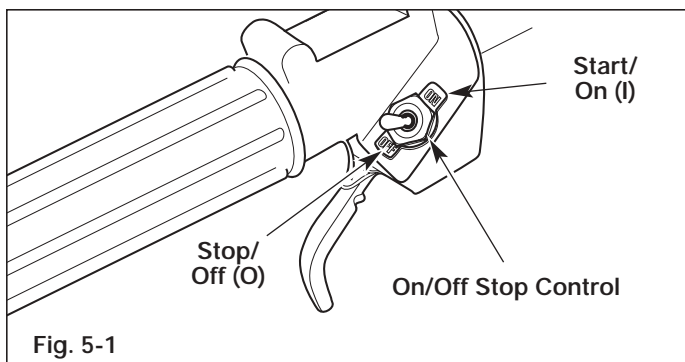
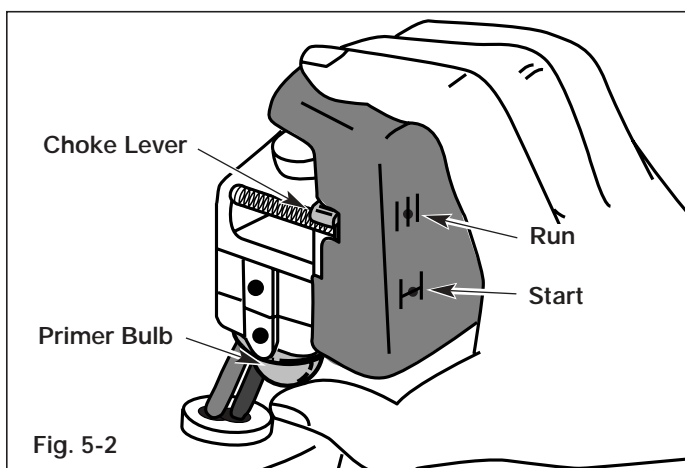

Fig. 5-1
Fig. 5-2
2. Put the On/Off Stop Control in the **ON (I)** position (Fig. 5-1).
3. Fully press and release the primer bulb 10 times, slowly, until **FUEL IS VISIBLE IN THE PRIMER BULB** (Fig. 5-2). If you can't see fuel in the bulb, press and release the bulb as many times as it takes before you can see fuel in it.
4. Place the choke lever in the **START (I-I)** position (Fig. 5-2).
6. Place the choke lever in the **RUN (I-I)** position (Fig. 5-2).
NOTE: If the engine floods while trying to start, place the choke lever in the **RUN (I-I)** position (Fig. 5-2). Squeeze the throttle control. Pull the starter rope briskly. The engine should start within three (3) to eight (8) pulls.
9. Squeeze the throttle control to warm up the engine for 5 to 10 seconds. Place the choke lever in the **RUN (I-I)** position (Fig. 5-2).
NOTE: Choking is unnecessary when starting a warm engine. Put the On/Off Stop Control in the **ON** position (Fig. 5-1), and the choke lever in the **RUN (I-I)** position (Fig. 5-2). Pull the starter rope.
2. Put the On/Off Stop Control in the **OFF (O)** position (Fig. 5-1).